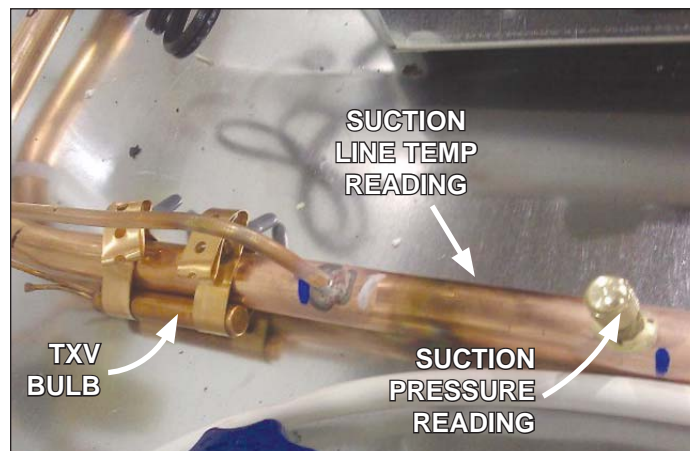

Fig. 10 Obtain pressure and temperature readings
1. Obtain suction pressure from access port; obtain suction line temperature from area near TXV bulb at the outlet of evaporator coil (Fig. 10).